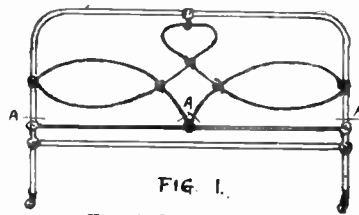

FIG. 1.
Provided the old bedstead is made of tubular metal, and most of them are, then the job will be quite easy. The first thing to do is to cut off all unwanted metalwork, and then into the tubular feet is built up the wood panelling forming the head and foot boards. No hard and fast rule can be laid down regarding where to make the cuts, as the design of the bedstead will determine this. For instance, in Fig. 1 four cuts were necessary, and these are shown marked (A).
In Fig. 1 the hole in the tube forming the foot is 4ins. deep, but this will vary with different designs. In order to make a sound job it should not be less than 4ins., but may be anything over this.